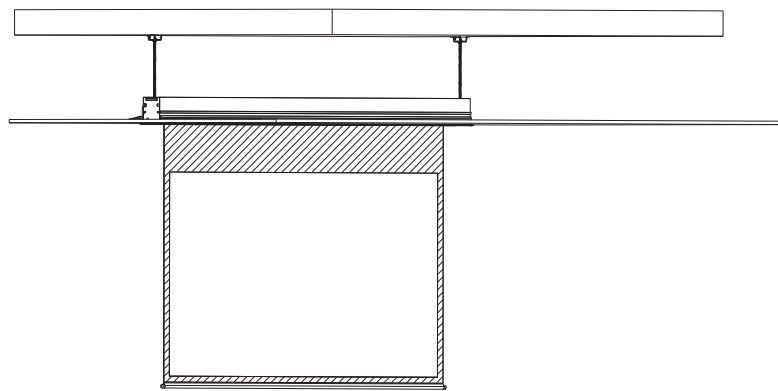

Figure25
- 5) Unlock the security lock of baffle (figure 24、figure 25), insert the plug of security to a hole of end cap (figure 26), if the baffle can not move up that please align baffle with ceiling board.
11. Installation Completed (figure 25).